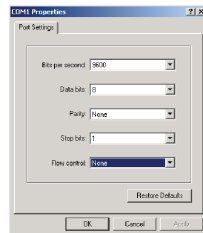

Figure 7. Configure Port Settings
5. Set the serial line to 9600 baud, No parity, 8 data bits, 1 stop bit, and no flow control (see Figure 7).